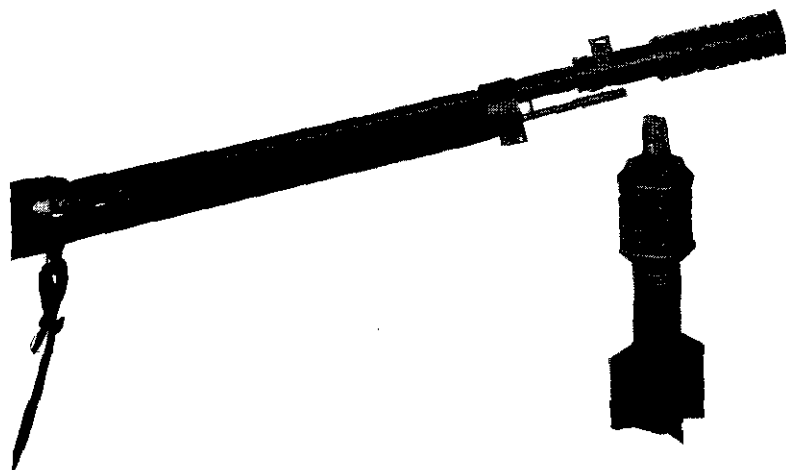
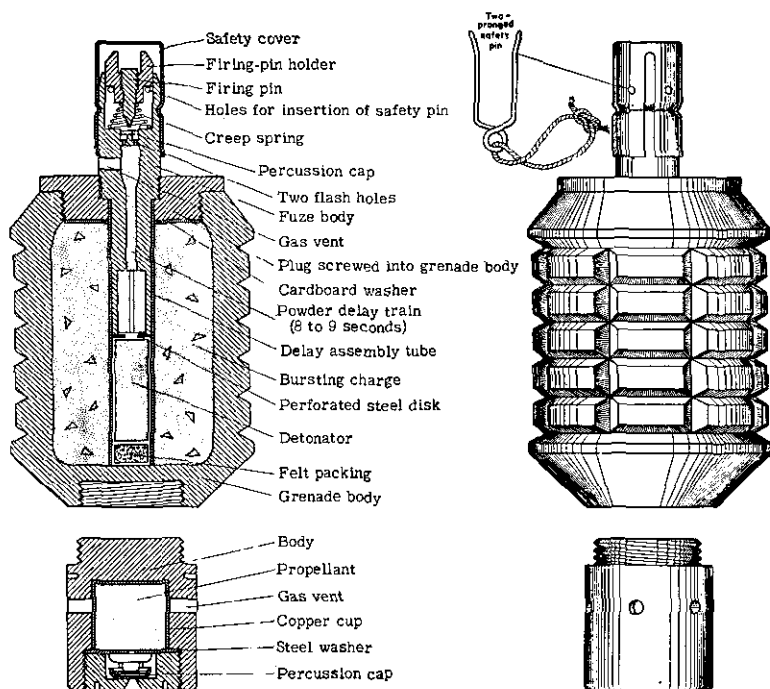

Figure 24.—High-explosive rifle grenade and spigot-type grenade launcher.
Figure 29.—Model 91 (1931) hand grenade.
(c) *Spigot-type*.—The spigot-type launcher (fig. 24) also fits over the muzzle and is locked behind the front sight of the rifle. Two types of grenades used in the spigot-type launcher are the high-explosive grenade and the smoke grenade.
The high-explosive rifle grenade (figs. 24 and 25) resembles the Model 91 (1931) hand grenade (par. 10, p. 45) except that it has a fin assembly instead of the propelling charge. The exact manner of operating this rifle grenade is not known. It is thought that the rifle grenade is placed over the spigot, the safety pin pulled, and a special cartridge with a wooden projectile fired in the rifle. Setback probably causes the firing pin to
The Model 91 (1931) hand grenade (figs. 29 and 30) can be either fired from the Models 10 (1921) (par. 19, p. 68) and 89 (1929) (par. 20e (2), p. 81) 50-mm grenade dischargers or thrown by hand. It can also be modified for use as a rifle grenade by substituting a tubular tail fin assembly for the propellant container (see par. 8g (2) (c), p. 36, and fig. 24, p. 37).